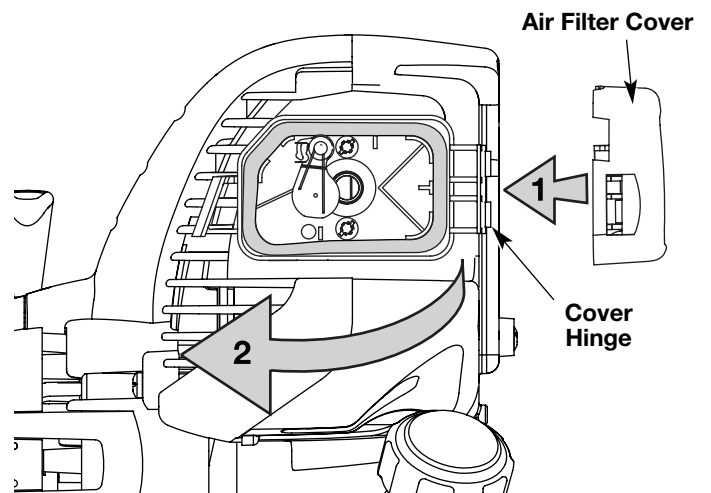

Fig. 33
7. Reinstall the air filter cover. Position the hooks on the right side of the air filter cover into the slots at the right side of the back plate (Fig. 33, no.1).
8. Swing the cover to the left until the tab on the air filter cover snaps into place in the slot on the back plate (Fig. 33, no. 2).
12. Reinstall the muffler cover. Slip the rear tab on the muffler cover into the engine cover rear slot. Then slide the remaining slots into the tabs until they snap into place (Fig. 33).